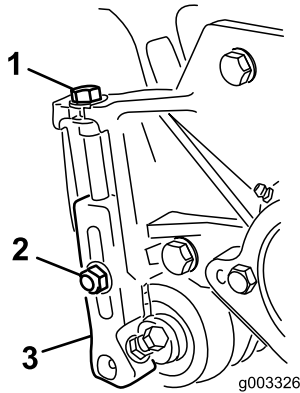

Figure 15
1. Loosen locknuts securing height-of-cut brackets to cutting unit side plates (Figure 15).